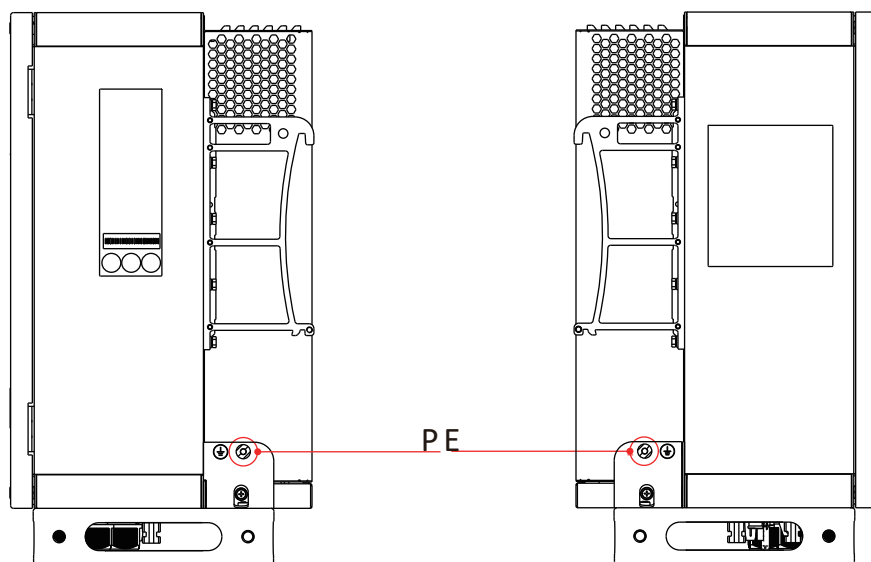

Fig 6.8 Ground points
4. The position of the ground points of the WIT 29.9-50K-XHU Hybrid Inverter is shown in Fig 6.8.